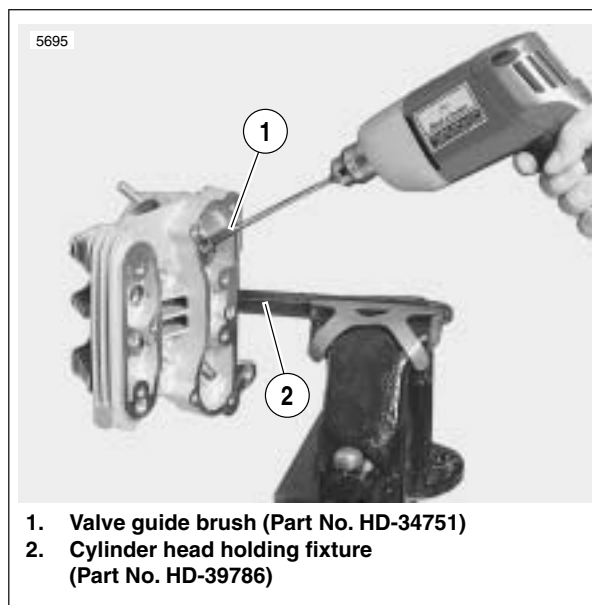

Figure 3-71. Cleaning Valve Guides
7. See Figure 3-71. Thoroughly clean valve guide bores using VALVE GUIDE BRUSH (Part No. HD-34751) and hot soapy water.